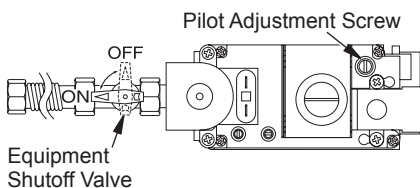

Figure 49 - Turning Equipment Shutoff Valve to the OFF Position
5. Turn equipment shutoff valve clockwise  to the OFF position (see Figure 49). Do not force.
6. Wait five (5) minutes to clear out any gas. Then smell for gas, including near the floor. If you smell gas, **STOP!** Follow "B" in the safety information on page 6. If you don't smell gas, go to the next step.
- Turn the adjustment screw marked PILOT clockwise to decrease or counterclockwise to increase the flame to proper size (see Figure 49, page 28). Do not remove the adjustment screw.